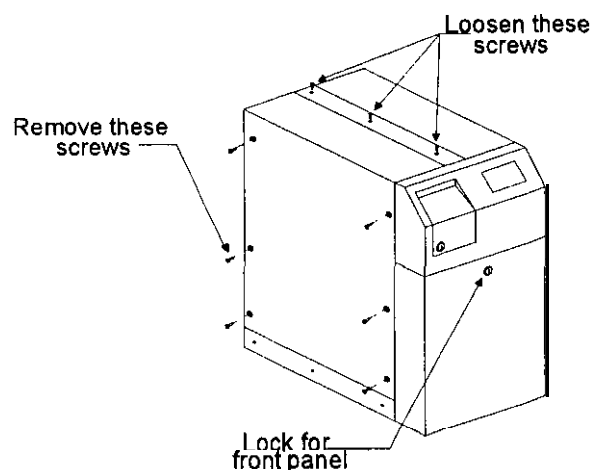

Figure 9
101-3. Use the FERRUPS key to unlock the lock in the middle of the front panel. (See Figure 9.) Remove the panel. Turn off the DC switch behind the front panel. Put the panel back on the UPS. If your UPS has one (1) or more separate battery cabinets, turn off the DC switch at each battery cabinet or rack.
101-4. Loosen the three (3) Phillips screws on the bar across the top of the UPS. (See Figure 9.)
101-5. Remove the Phillips screws on each side of the UPS. (See Figure 9.)